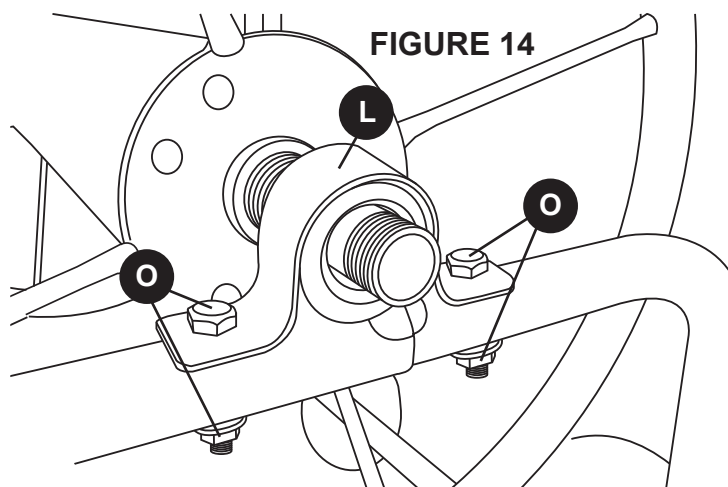

FIGURE 14
14. Insert two 40mm bolts and nuts (**O**) through the u-bushing (**L**) and the frame. **See Figure 14**